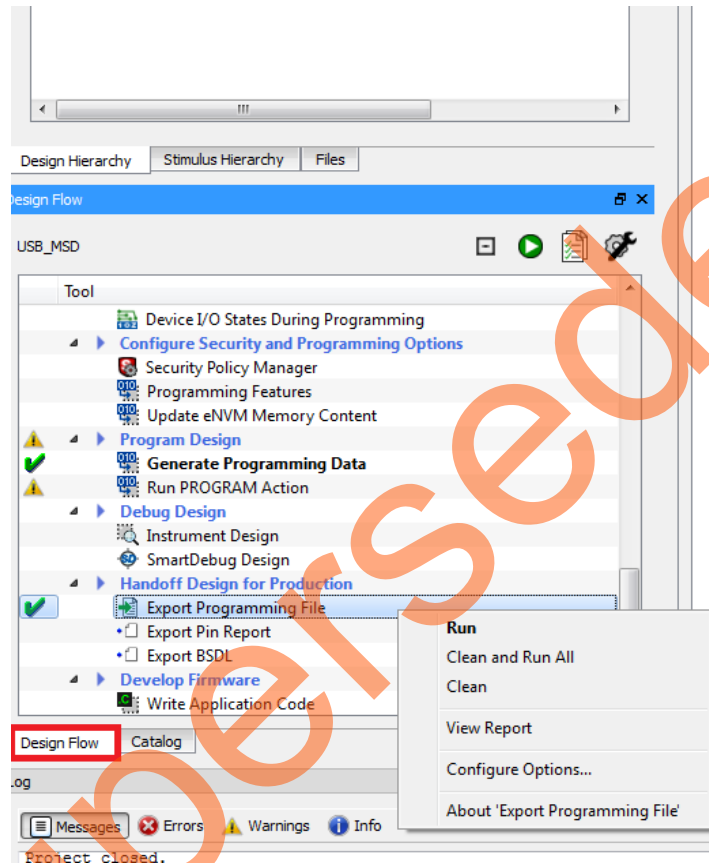
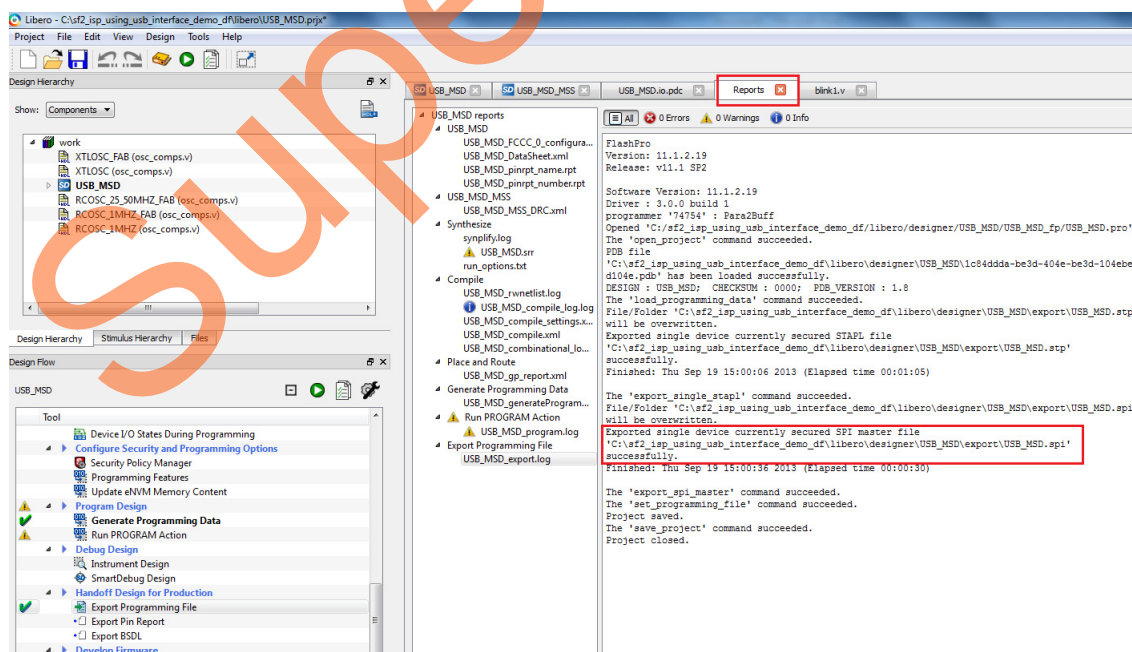

Figure 19 • Configuring Export Programming File
Figure 21 • .SPI File Location
- Double-click **Export Programming File** under **Handoff Design for Production** in the **Design Flow** tab to generate the .spi file (Figure 19 on page 29). Figure 21 shows the .spi file location in **Reports** tab.